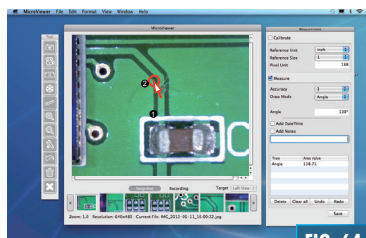

FIG. 64
7. Click at the second point or corner of the angle and release the button of the mouse. (Fig. 64)